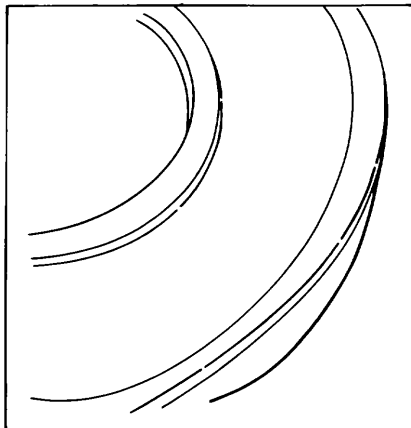

Figure 133.
7. If trunnion bearings (23) were removed from cam (12) during disassembly, install new trunnion bearings (23) using an arbor press and a 1 1/2 inch plug, pressing against the lettered side of the trunnion bearing. It is extremely important that the bearing be started straight into the bore. If the bearing cocks at any time during assembly, remove and discard the bearing. Support the cam lug on the under side to avoid bending the lug. Outer face of trunnion bearing (23) should be pressed flush with outer face of cam (12).
8. Examine wear plate (20). Circular patterns burnished on the surface of the cam plate are normal. If circular patterns on the wear plate are extensive and can be felt with the fingernail, or if angular scratches are evident, the plate must be discarded. See Fig. 133.